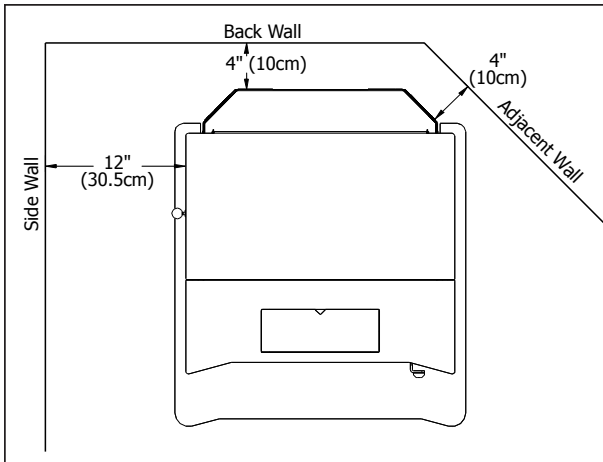

Figure 4: VF170 Clearance to Combustibles.
1. Remove the right and left hand cabinet sides. Partially back out the two (2) T-20 Torx screws on the back of the each panel and the two (2) located on the front inside edge below the louvers and ash shelf. Pull the panel forward then remove.
3. Secure the shield to the unit with two (2) screws on each side (see Figure 4).